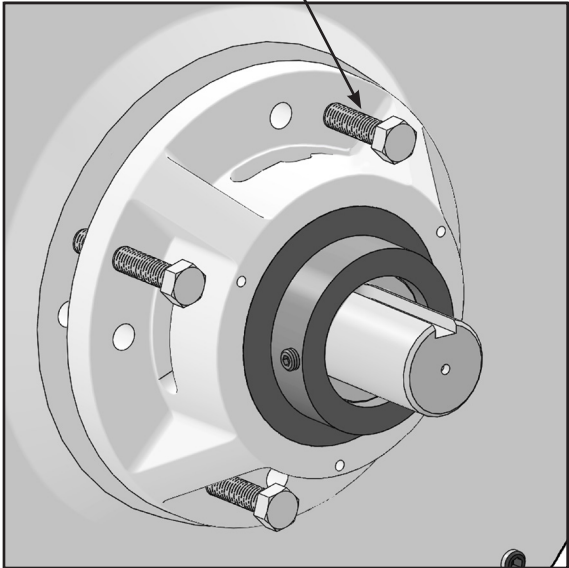

FIGURE 23
- 10. Alternately tighten opposing jack bolts 1/4 turn at a time until cartridge can be pulled from endplate (Figure 23). Properly dispose of bearing cartridge.